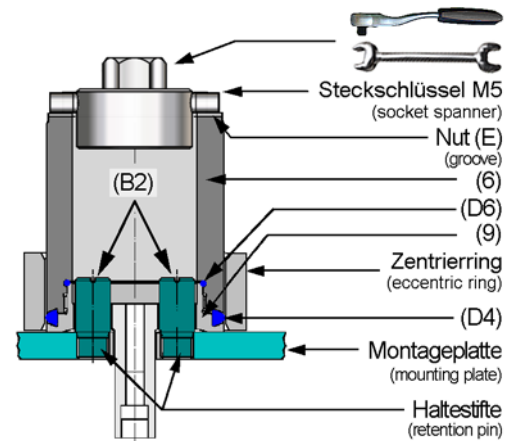
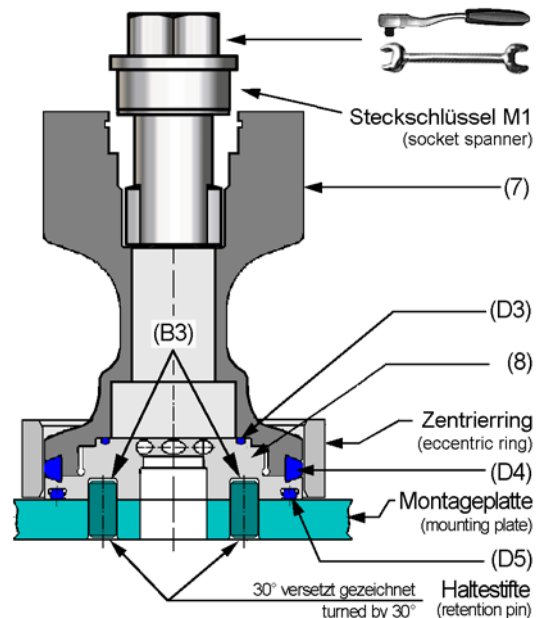
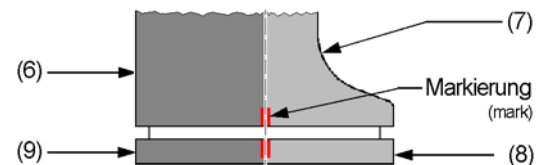

fig. 4
fig. 5
fig. 6
- Unscrew the lock nut (11) and remove the disc (10).
- Separate the lower piston (6) from the upper piston (7) in axial direction.
- Take off the split washer (13).
- Position the piston plate lower (9) about the two holes (B2) in the retention pin (see fig. 4 /page 9).
- Position the mounting lever M5 into the slot (E) (fig. 4 /page 9) and unscrew the piston (6) from the lower piston plate (9).
- Unscrew hexagon screw (14)(4x).
- Unscrew the upper piston (7) about the holes (B3) and the retention pin. Counter with the hook wrench M4 at the hole (B1) (fig. 5 /page 9).
- Screw in piston plate (8) resp. (9) without the seal (D4) to the metal limit stop in the piston (6) resp. (7) and make a coloured mark (fig. 6 /page 9).
- Screw out the piston plate (8) resp. (9) of the piston (6) resp. (7).
- Push the seal (D4) into the piston (6) resp. (7) and screw the piston plate (8) resp. (9) into the pistons (6) resp. (7) by hand.
- Position the eccentric ring (M3) on the seal (D4) (fig. 5 /page 9).
- Clamp the mounting plate into the vice and fix the piston plate (8) resp. (9) (see fig. 4 /page 9 resp. fig. 5 /page 9).
- Position the socket spanner M1 resp. M5 and screw the piston (6) resp. (7) up to the final limit mark (fig. 6 /page 9).